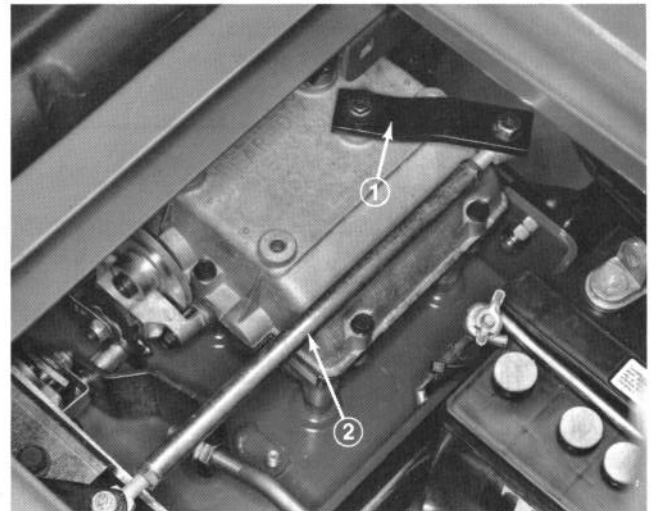

Figure 28
2. Remove capscrew securing end of tie rod to left transmission shift lever (Fig. 28).